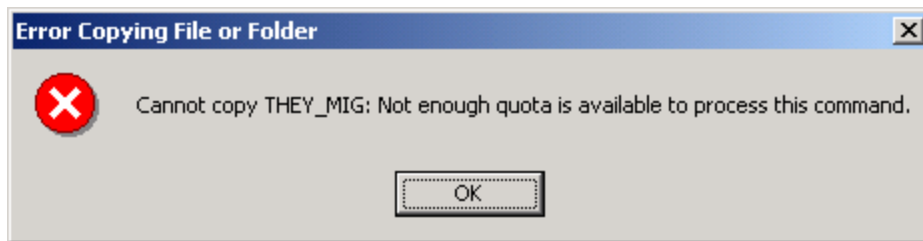

Figure 6.5: An example of what can be an obscure quota message to an uninformed end user.
- Lack of user education—Suppose that you are the first user to receive the quota message that Figure 6.5 shows. If no one has told you ahead of time that a quota-management system is in place, you might end up calling the Help desk for support. If they are uninformed, who knows how many hours can be wasted trying to track down the source of the message.